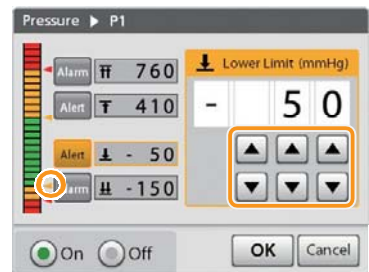

Figure 3-17
11. Tap ▲ or ▼ to input the lower limit value you want to set. (Figure 3-17)